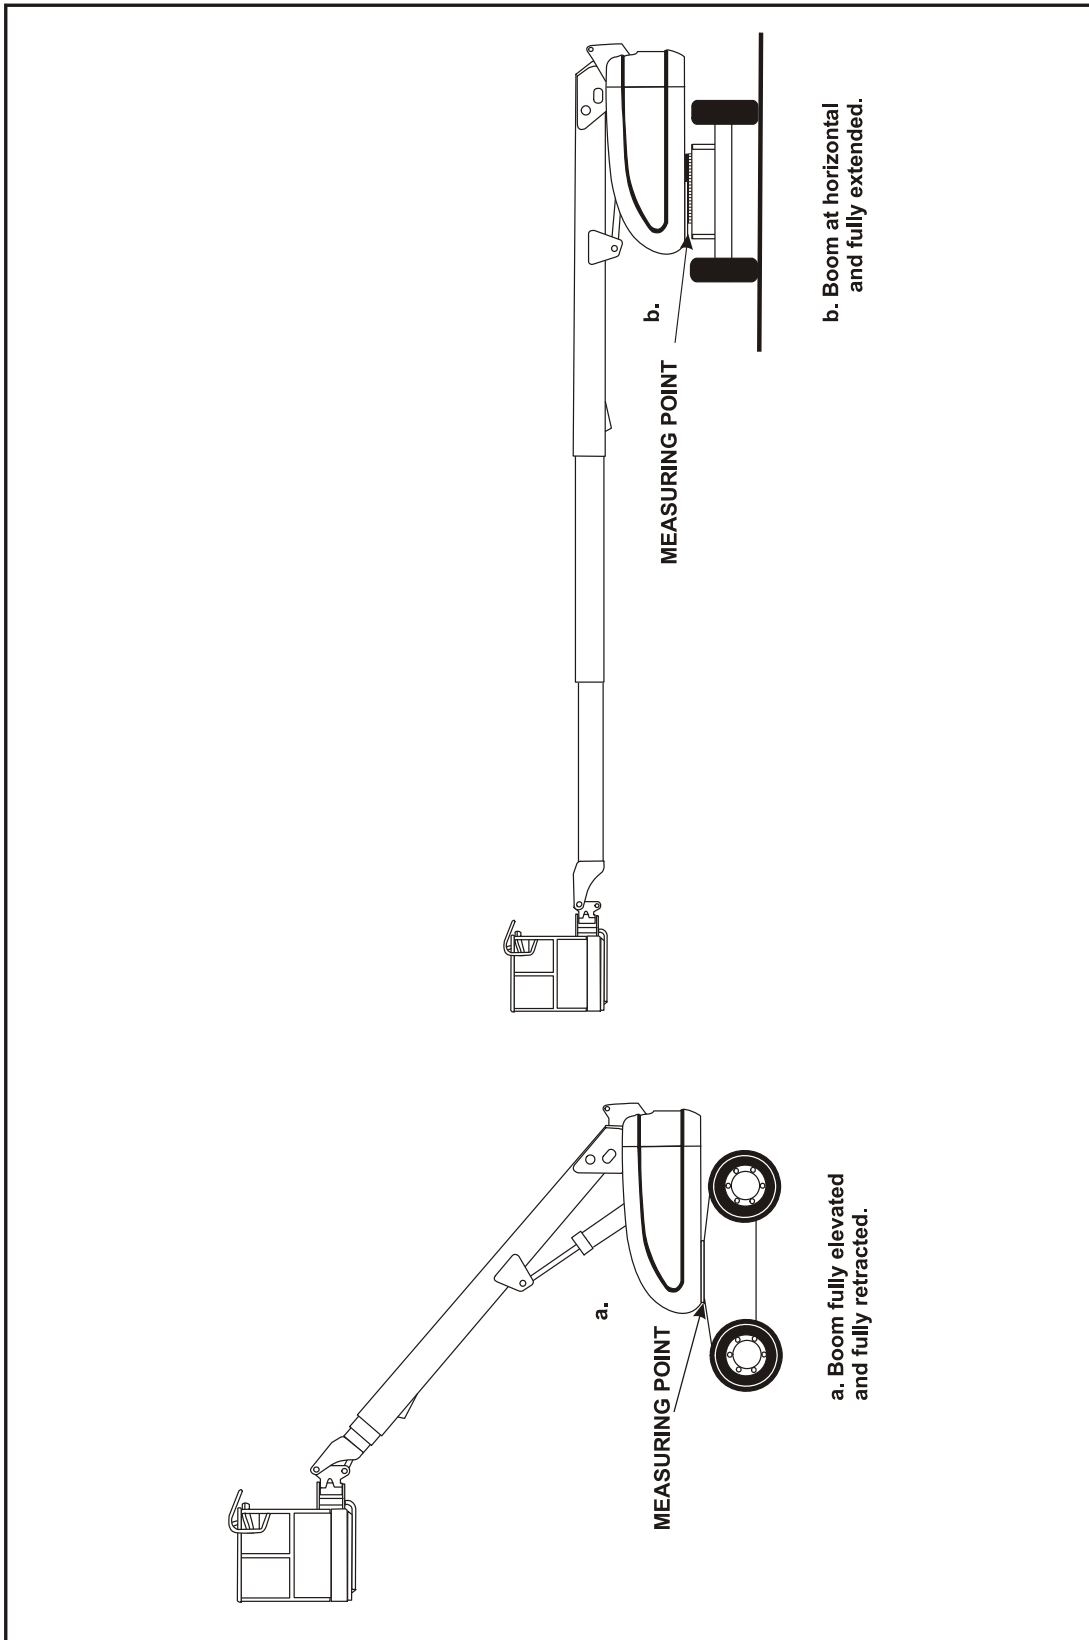
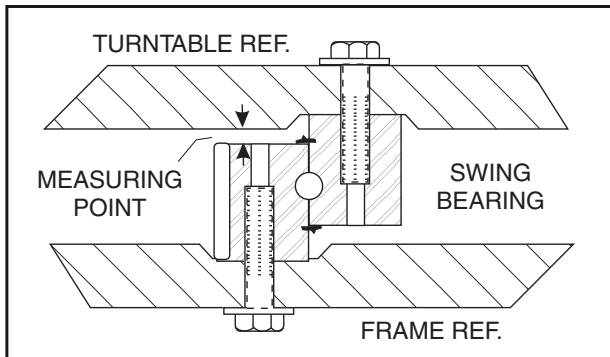

Figure 3-43. Swing Bearing Tolerance Boom Placement
Figure 3-44. Swing Bearing Tolerance Measuring Point
1. From the underside of the machine, at rear center, with the boom fully elevated and fully retracted, as shown in Figure 3-43., Swing Bearing Tolerance Boom Placement - Swing Bearing Tolerance Boom Placement) A, using a magnetic base dial indicator, measure and record the distance between the swing bearing and turntable. (Figure 3-44., Swing Bearing Tolerance Measuring Point)
2. At the same point, with the boom at horizontal and fully extended, and the tower boom fully elevated as shown in - Swing Bearing Tolerance Boom Placement) B, using a magnetic base dial indicator, measure and record the distance between the swing bearing and turntable. (Figure 3-44., Swing Bearing Tolerance Measuring Point)